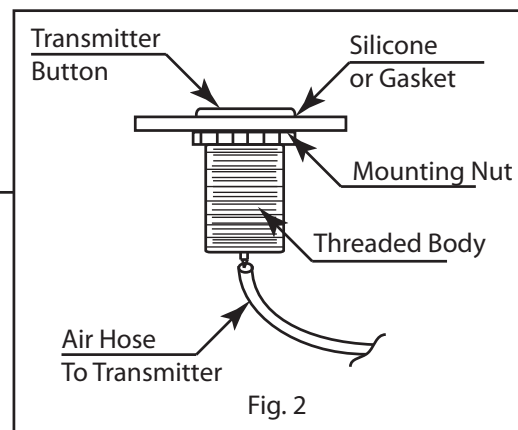

Fig. 2
- 4) Connect one end of the air hose (supplied) to the fitting on the air transmitter. See Fig. 2 for additional information.